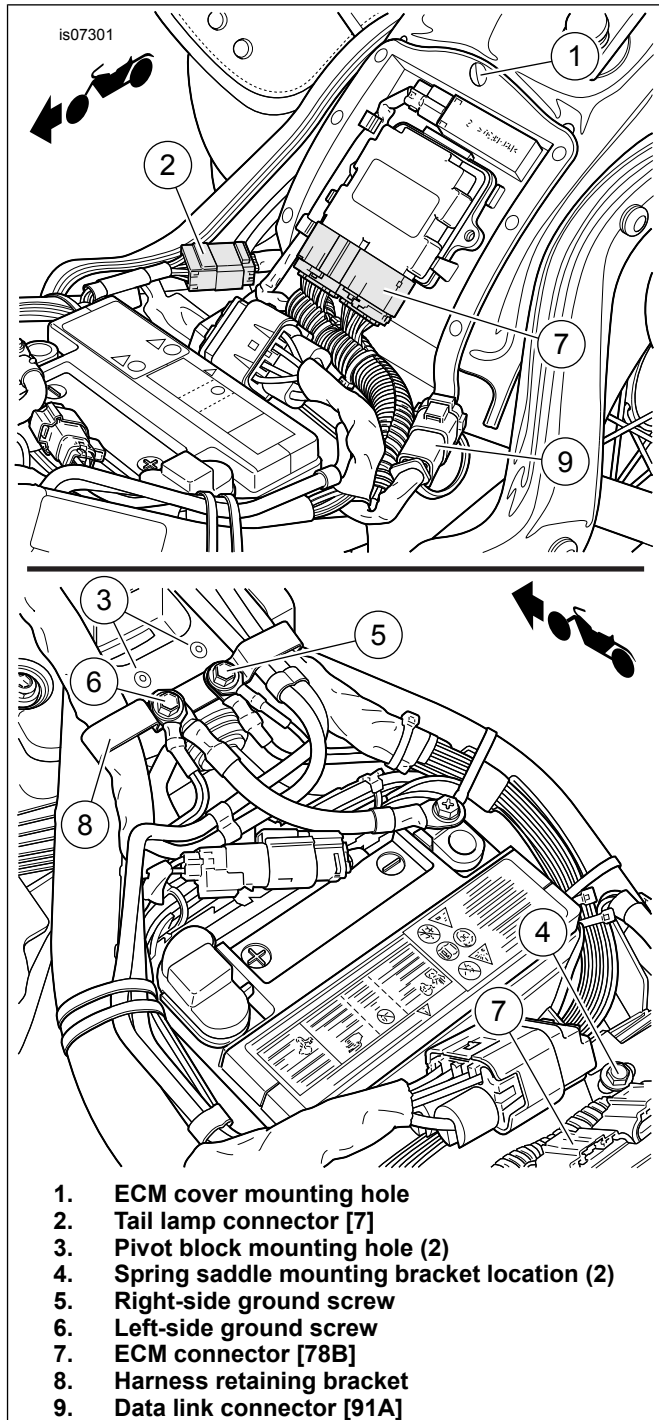
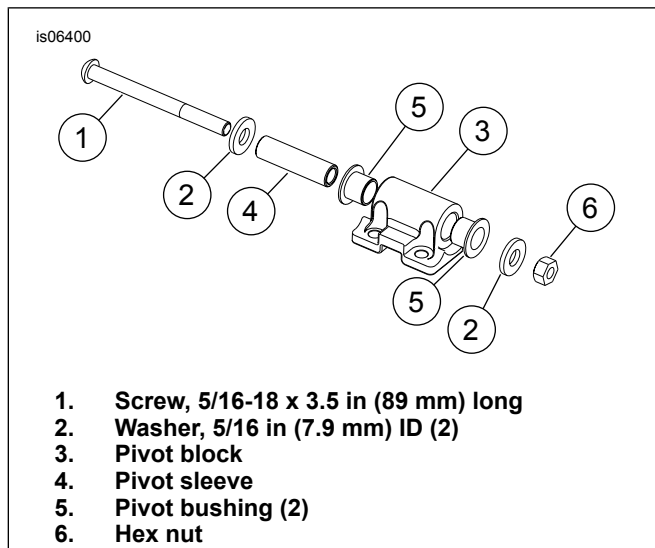
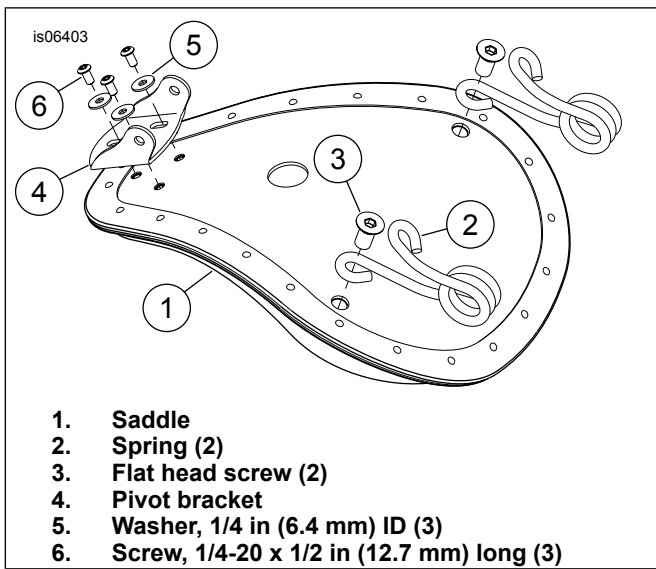
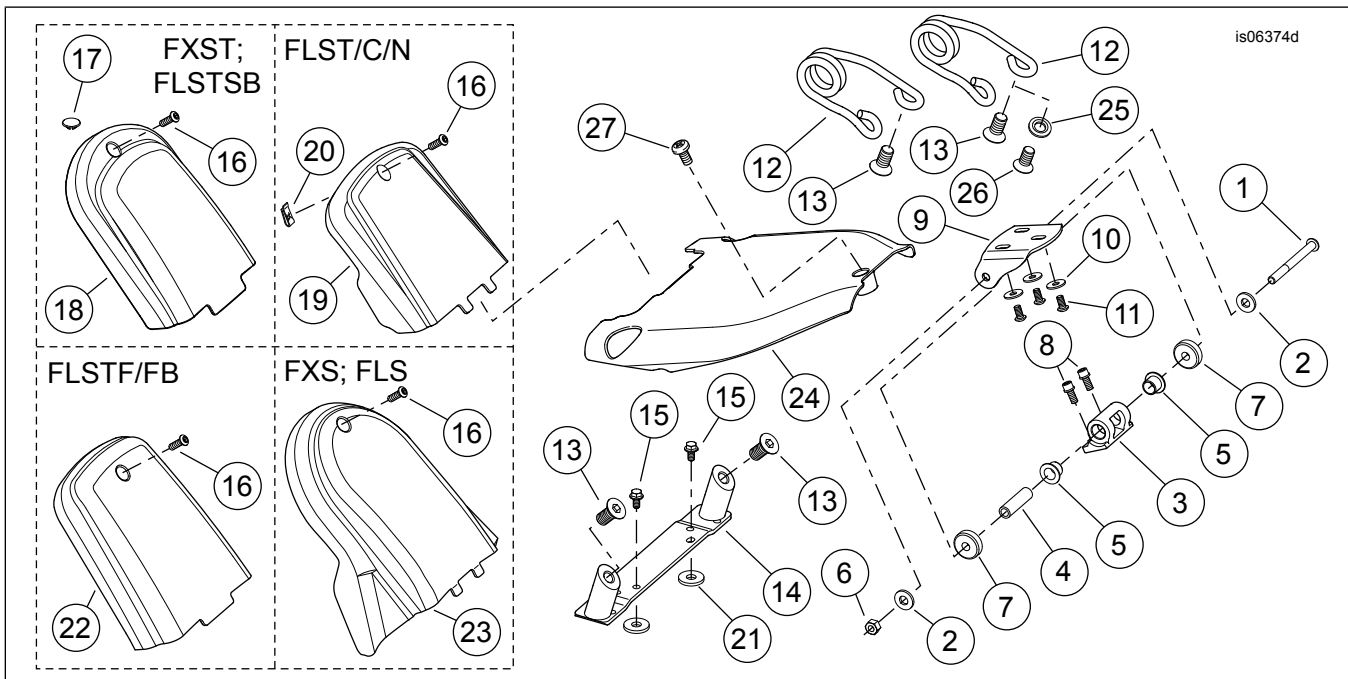

Figure 3. Install Spring Saddle
Figure 4. Pivot Block Assembly
Figure 5. Install Pivot Bracket to Saddle
Figure 6. Service Parts: Softail Spring Seat Mounting Kit
See Figure 6 and Table 1.
2. **For FXST and FLSTSB models:** See Figure 6. Install plug (17) in the fender hole left vacant after seat hardware removal. **For FLST/C/N models:** Remove **one** large plastic retaining washer from the stud bracket. Secure the stud bracket with two flat washers (Part No. 6235, not supplied) or an equivalent washer stack with a 2.5–6.4 mm (0.10–0.25 in) thickness, and the previously removed seat mounting nut (Part No. 3633). Repeat with the remaining large plastic retaining washer. **For FXS and FLS models:**
- a. See Figure 6. Install plug (17) in the fender hole left vacant after seat hardware removal. Do not remove the grab strap mounting hardware in the fender.
3. **ALL models:** See Figure 3. Unless already done, disconnect the ECM connector [78B] (7) and tail lamp connector [7] (2).
4. Remove the tail lamp connector (2) and data link connector (9) from the T-studs.
*If the right side ground cables cannot be relocated to the left side ground location, they can be mounted to the right side under the harness retaining bracket (8) later in the installation.*
- a. Remove the right side (5) and left side (6) ground screws.
- b. Secure all ground cables to the left side ground location with the screw (6). Tighten the left side screw to 10–12 N·m (90–110 in-lbs).
- d. For 54376-10B and 52000014B see Figure 6. Replace right side screw (5) with screw (27).
1. See Figure 4. Press two pivot bushings (5) into the pivot block (3) using one of the following methods: **Method 1**, use a suitable press or vise, being careful to protect bushing surfaces, **or Method 2**, use the supplied hardware from the kit to seat the bushings:
- a. Install two bushings (5) into the pivot block (3) and secure with the 89 mm (3.5 in) long screw (1), pivot sleeve (4), two washers (2) and nut (6).
2. Get the two 1/4-20 x 16 mm (5/8 in) long hex socket head screws from the kit (see Figure 6, Item 8). Apply Loctite 243-Blue to the screw threads.
3. See Figure 3. Fasten the pivot block to the mounting holes at (3) with the screws from Step 2. Tighten the screws to 10–12 N·m (90–110 **in-lbs**).
4. Remove screws at (4), if equipped. The screws can be discarded or properly disposed of.
5. **FLST/C/N models:** Install the clip nut (see Figure 6, Item 20) for upper cover installation.
- a. Using a drill, enlarge the hole (Item 1, Figure 3 ) to a diameter of 7–8 mm (9/32–5/16 in).
- c. Install the clip nut (item 20, Figure 6 ) over the sheet metal edge of the ECM bracket and align the holes.
6. **FLST/C/N models:** See Figure 6. Apply Loctite 243-Blue to the threads of screws (15). Install the spring saddle mounting bracket (14) over the two spacers (21) with the two screws (15). Tighten the screws to 11–13 N·m (96–120 **in-lbs**). **All other models:** See Figure 6. Apply Loctite 243-Blue to the threads of screws (15). Install the spring saddle mounting bracket (14) and two screws (15) over the mounting flange of the ECM caddy, and fasten to the vehicle frame. Tighten the screws to 11–13 N·m (96–120 **in-lbs**).
7. See Figure 3. Plug the ECM connector (7) into the ECM, and mate the tail lamp connector halves (2).
8. See Figure 6. Install the lower frame cover (24) using the right side ground screw saved earlier. For 54376-10B and 52000014B use screw (27). Tighten the screw to 10–12 N·m (90–110 **in-lbs**).
9. Install the upper frame (ECM) cover (18, 19, 22 or 23) over the ECM. Align the cover so the lower tab fits into the slot of the lower frame cover. Secure with the hex socket button head screw (16) from the kit. Tighten the screw to 7–10 N·m (60–90 **in-lbs**).
1. See Figure 5. Place the saddle (1) upside down on a clean surface.
2. Install each spring (2) to the seat as shown with a hex socket flat head screw (3) from the kit, but do not fully tighten now.
3. Align the springs so they are parallel to each other and the seat. Verify that the springs are seated against the metal seat pan under the edge of the leather. Secure the saddle to the springs. See Figure 6. **Seats with 1/2 in hole:** secure with screws (13). Tighten the screws to 34–41 N·m (25–30 **ft-lbs**). **Seats with 3/8 in hole:** secure with screws (26) and spacers (25). Tighten the screws to 14–16 N·m (120–144 **in-lbs**).
4. Install the seat pivot bracket (4) to the seat as shown with 3 hex socket head screws (6) and washers (5). The bracket will sit on top of the leather at the front of the seat. Center the screws in the bracket slots. Alternately tighten the screws to 5.5–8 N·m (48–72 **in-lbs**).
1. See Figure 6. Get the 89 mm (3.5 in) long screw (1), two washers (2), the pivot sleeve (4), hex nut (6) and two pivot spacers (7) from the kit. Insert the pivot sleeve into the pivot block (3, mounted to the vehicle frame).
2. Apply Loctite 243-Blue to the threads of the long pivot screw (1).
6. See Figure 6. Secure the springs to the rear mounting bracket with flat head screws (13). Tighten the screws to 34–41 N·m (25–30 ft-lbs).
7. Secure the screw with the washer (2) and nut (6). Tighten the nut and screw to 11–13 N·m (96–120 in-lbs).